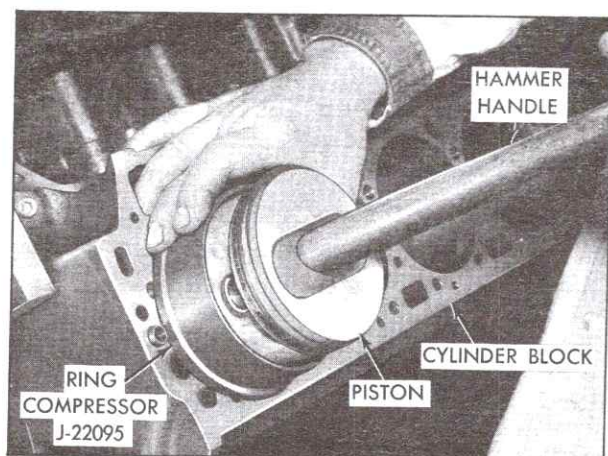

Fig. 6-144 Installing Piston in Cylinder Block
3. Using Piston Ring Compressor, J-22095, position capless rod and piston in cylinder bore with arrow in trough pointing toward front of engine (letter "R" on piston toward rear) Fig. 6-144.